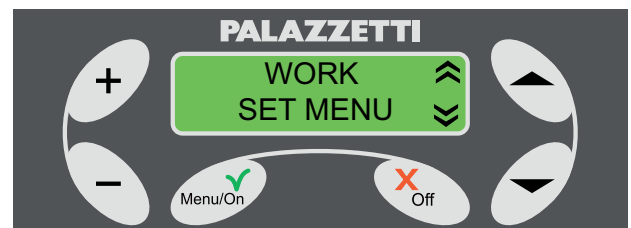

Fig. 1.7.1
- 1) show the “WORK SET MENU” on the display Fig. 1.7.1;